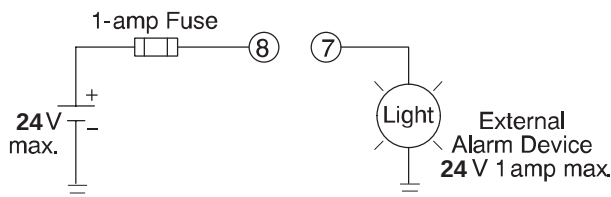

Fig. 2 8855A
4. **Fig. 2. Step optional for use of external alarm.** Terminals 7 and 8 are a normally open, voltage-free switch, available as a switching device for an external alarm circuit. Connect fused (+) power supply (not supplied) to terminal 8. Connect terminal 7 to external alarm. Ground external alarm to complete circuit